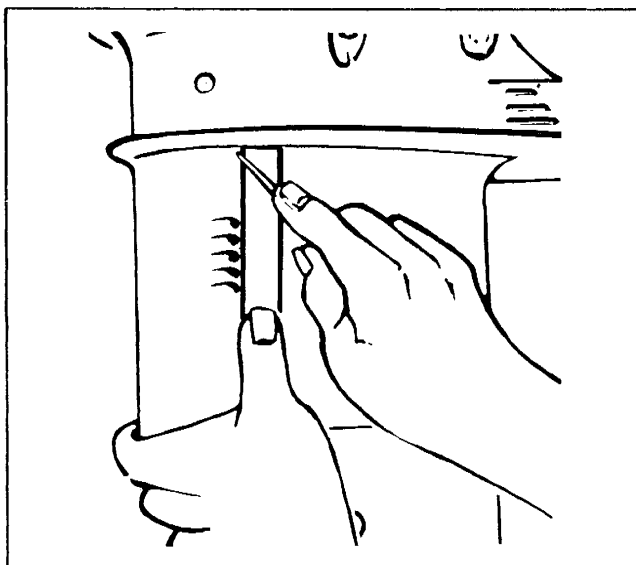

FIGURE 8
- b. Repeat operation after aligning straight edge with trailing edge of water intake holes. See Figure 8.